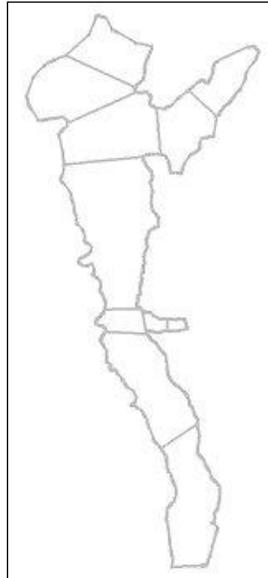

Figure 2 Segment locations
2. Use Figure 2 as a guide to create feature arcs (segments) where indicated by clicking on the edge of one bank to begin the arc, and then clicking on the other side of the bank to complete the arc. Remember that it is unnecessary to create segments where branches were defined previously.